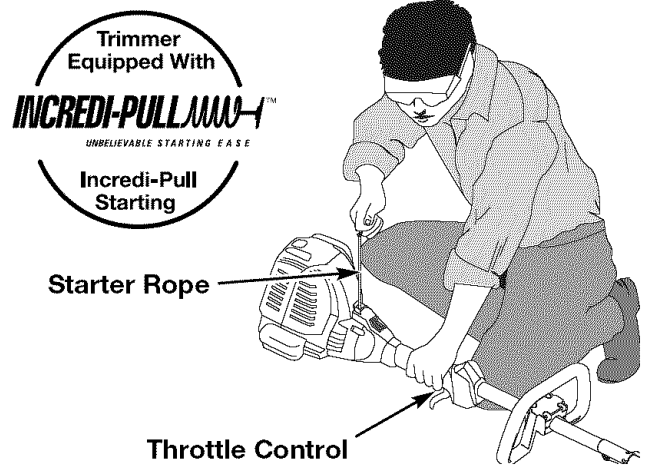

Fig. 8
**WARNING:** Avoid accidental starting. Make sure you are in the starting position when pulling the starter rope (Fig. 8). To avoid serious injury, the operator and unit must be in a stable position while starting.
4. With the unit in the starting position (Fig. 8), **do not squeeze the throttle control**. Pull the starter rope out a short distance, until you feel some resistance. This is usually around 2-4 inches. Pull the starter rope out with a **controlled and steady motion**. Repeat this 5 times. The engine should start.